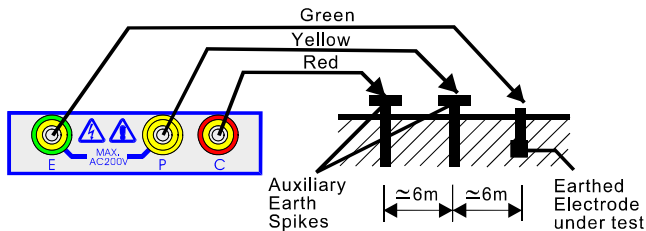

Figure 1.-
- (1) Connect green, yellow and red test leads to instrument terminals E, P and C with auxiliary earth spikes P1, C1 stuck into earth "IN A STRAIGHT LINE". (Fig. 1).
- (2) Rotary to function switch to **EARTH VOLTAGE** position and press TEST ON/OFF to test. Earth voltage will displayed on the LCD. When earth voltage is more than 10 V, it may result in errors in earth resistance measurement. Accurate earth resistance measurement may not be made, location of spikes must be checked.
- (3) Rotary the function switch to suitable range then press the pushbutton press TEST ON/OFF to test and take the reading.
Follow the proper connection such as fig. 1 the LED (red) indication will lit. This proves a correct current circulation is under its operation.